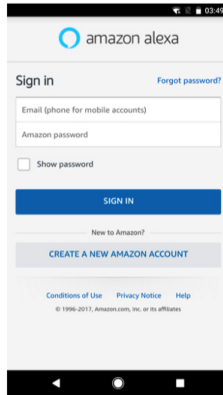

fig.2
- Register for an Amazon account, if you don't have one, or enter your Amazon account and password, then tap 'sign in' (fig. 2).